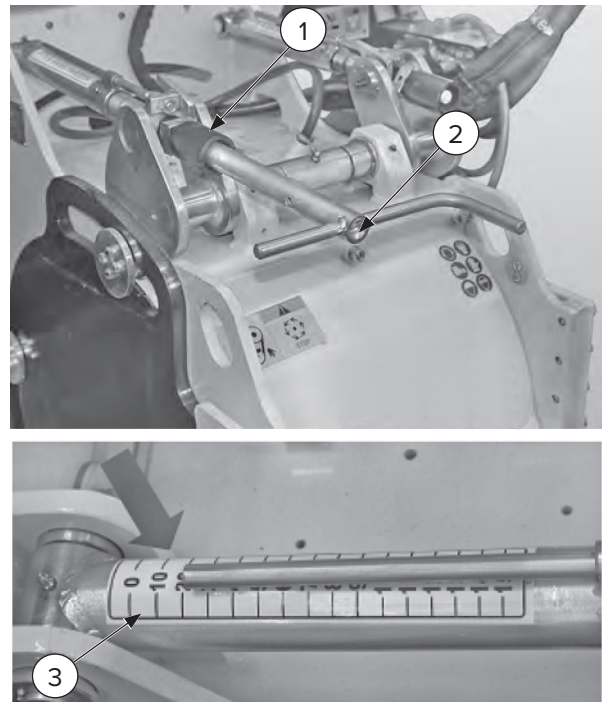

Figure 9
3. Using depth adjustment crank [Figure 9, Item 2], turn the adjustment rod [Item 1] to adjust the planing depth.